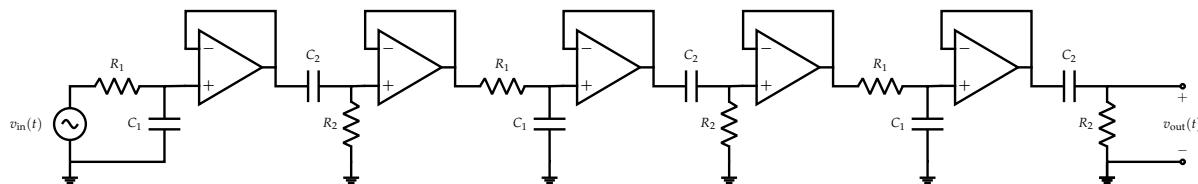

Figure 1: "Time-domain" circuit: Cascade of the three bandpass filters, using buffers to avoid loading.
- (i) Suppose that the bandpass filter does not have enough suppression at 60 Hz and 60 kHz. You decide to use a cascade of three bandpass filters (with unity-gain buffers in between) (as shown in Figures 1 and 2). What are the phasors for each of the frequency tones after all three bandpass filters?